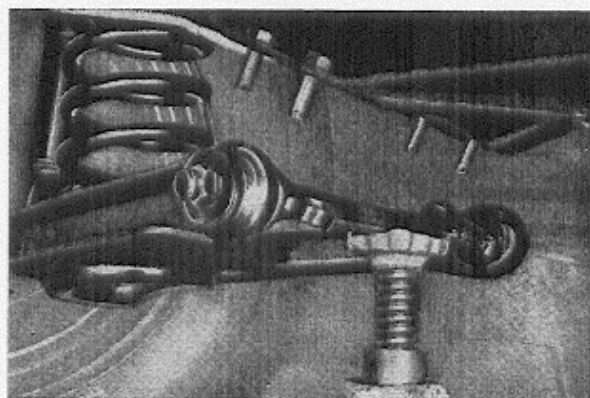

Fig. 3. Removing front springs
3. Place a jack under the lower control arm and unscrew the four nuts on the front cross member attachments. Fig. 3.
2. Lift up the control arm until the spring rests with the upper end in the seat on the front axle support member, then place a jack under the control arm, see Fig. 3.